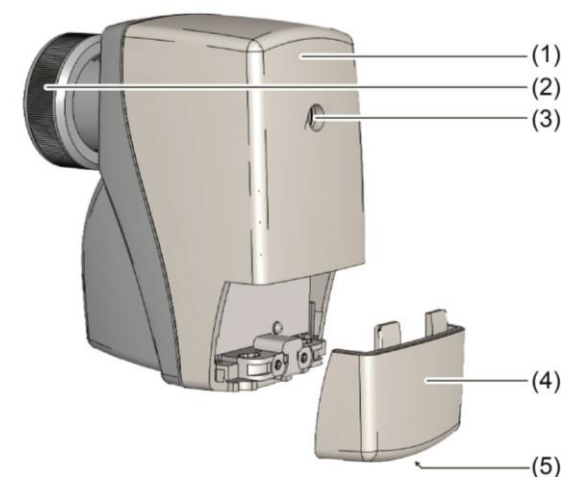

Figure 1: Device components, front view
- Knurled nut (Figure 1) and hand-tighten it (b).
- Knurled nut (Figure 1)(a).